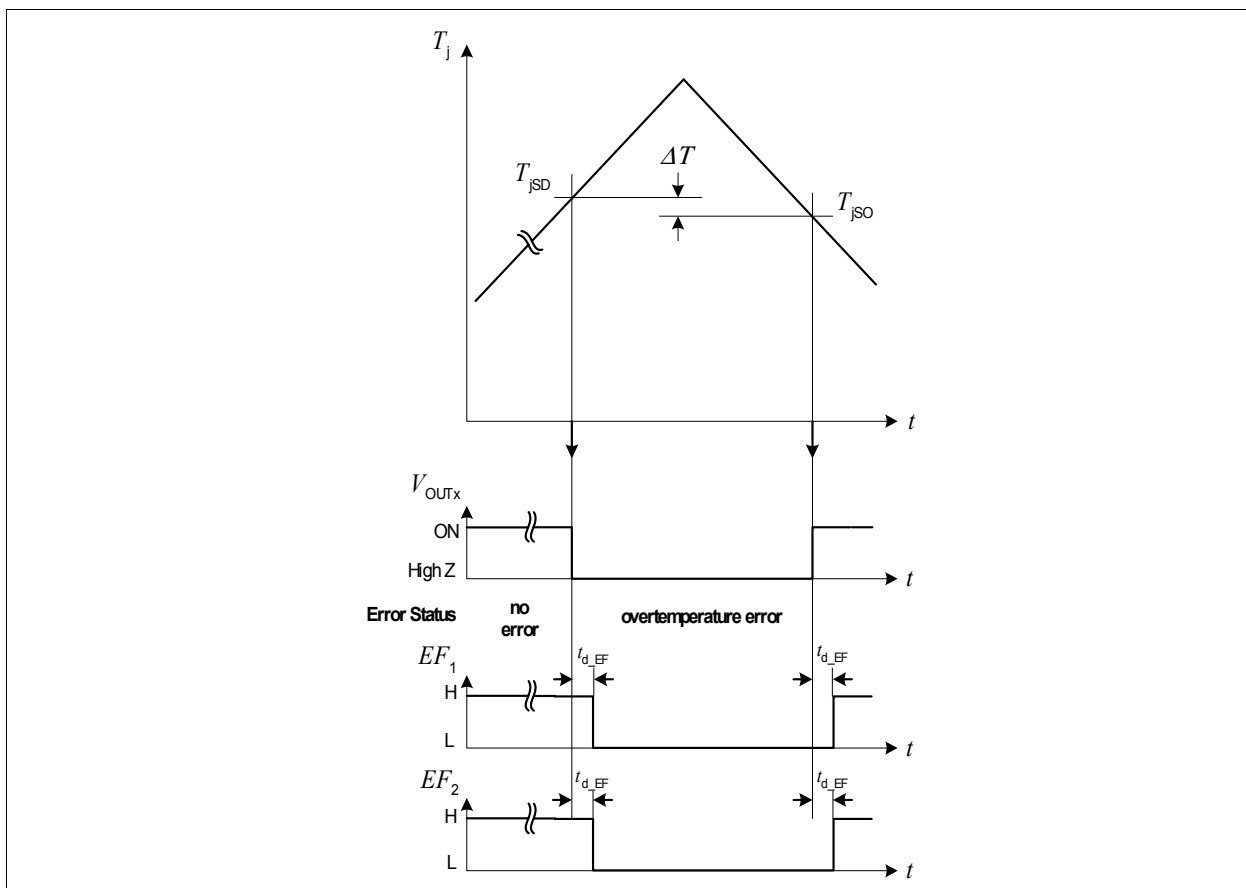

Figure 8 Overtemperature signalling
- b) **Over Temperature:** At a junction temperature higher than the thermal shutdown temperature  $T_{jSD}$  (typ. 175°C) the device enters thermal shutdown which turns-Off all four output stages simultaneously and the corresponding Error Flags are set with a delay. After cooling down to the thermal switch-on junction temp  $T_{jSO}$  the device will auto restart. A thermal toggle behavior can be observed (the Error Flags and output stages will be modulated by the thermal time constants; **Figure 8**).
Temperature sensors are integrated in the power stages. Each half bridge (HS+LS) is equipped with one temperature sensor. The temperature monitoring circuit compares the measured temperature to the shutdown thresholds. If one or more temperature sensors reach the shutdown temperature  $T_{jSD}$ , the overtemperature Error Flag is set to LOW. This Error Flag is not latched (i.e. if the temperature falls below the switch on threshold  $T_{jSO}$ , the Error Flag is automatically reset to HIGH again). This is shown in Figure 8 below.